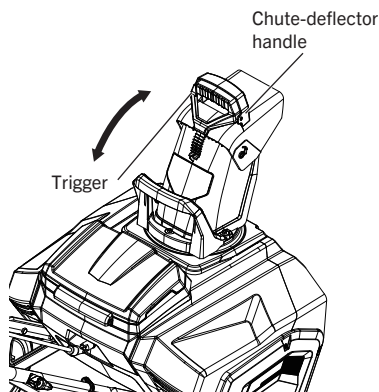

FIG. 10
The throwing distance (or the angle) of the snow thrower is adjusted by moving the chute deflector up or down (Fig. 10). Release start lever before adjusting the chute deflector.
1. To increase the distance that the snow is thrown, squeeze the trigger on the chute-deflector handle, and then raise the chute deflector. Release the trigger on the chute-deflector handle to lock the chute deflector in place (Fig. 10).